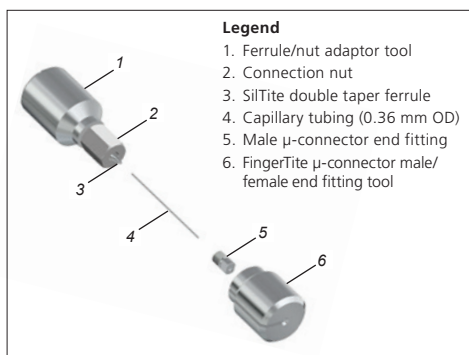

Figure 1. Exploded view of installing the male  $\mu$ -connector end fitting.
2. Referring to Figure 1, locate the ferrule/nut adaptor tool (1) and connection nut (2).